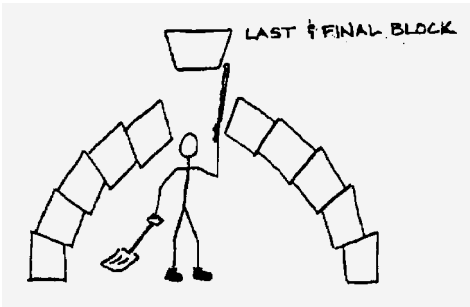

Figure 11-17
7. The last block should be cut as a tapered “cork.” It is lowered to the person inside the igloo, who can cut the sides until it drops in snugly as shown in figure 11-17.